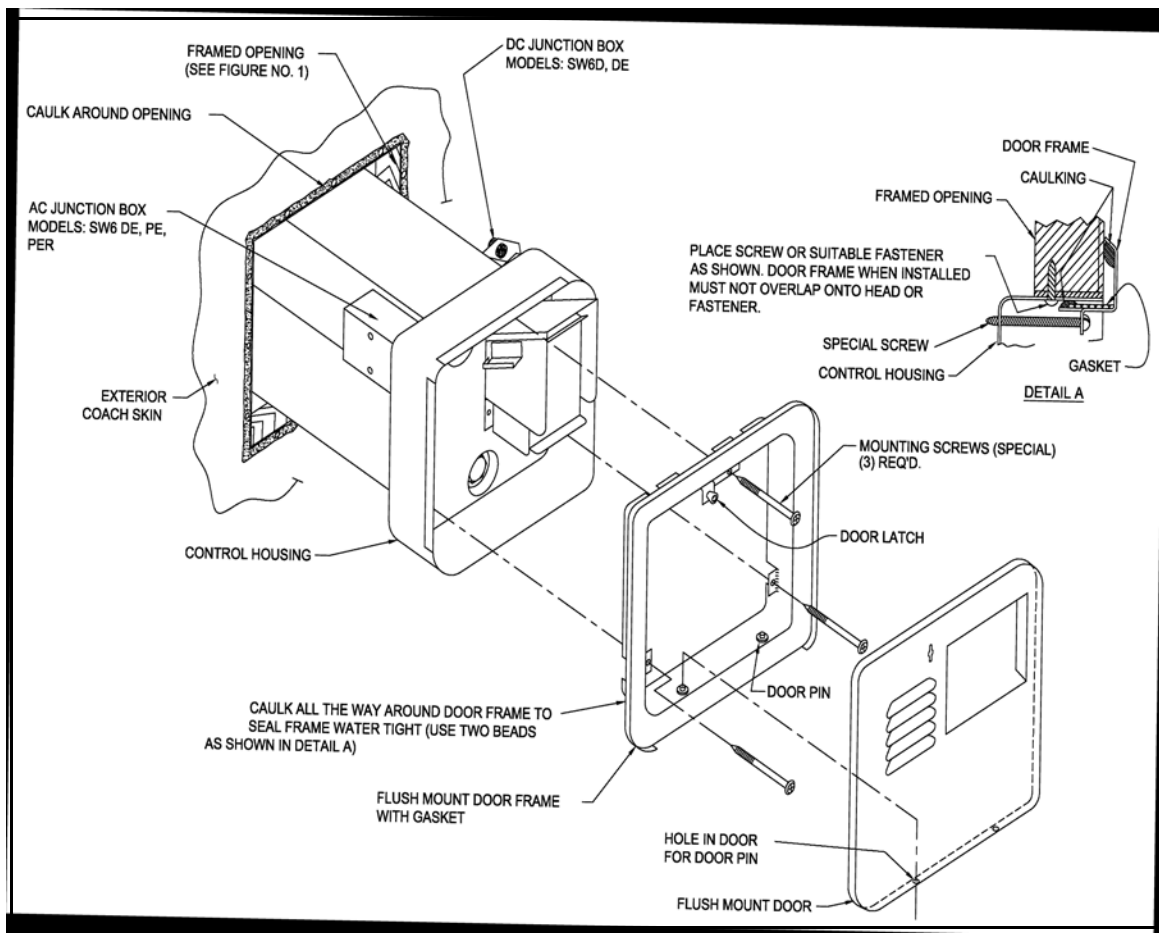

Figure 2
(See Figure 2 for Illustration)
A. Refer to Figure 2 for location of A.C. junction box on model SW6PE and SW6PER.